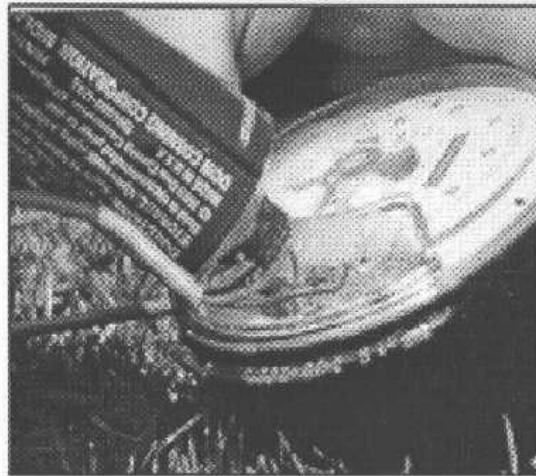

Figure 2-4 Applying Moisture Protection Compound
- 6 Use a generous amount of moisture protection compound (Dow Corning #4® or GE Novaguard GB24®) to completely cover the terminal screws and exposed wire ((Figure 2-4).